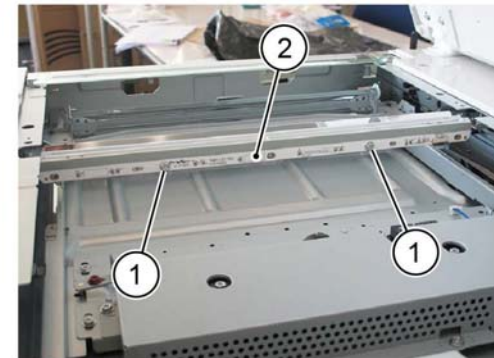

Figure 3 Lamp assembly removal
6. Remove the lamp assembly, **Figure 3**:
- a. Remove two screws (1).
- b. Remove the lamp assembly (2).